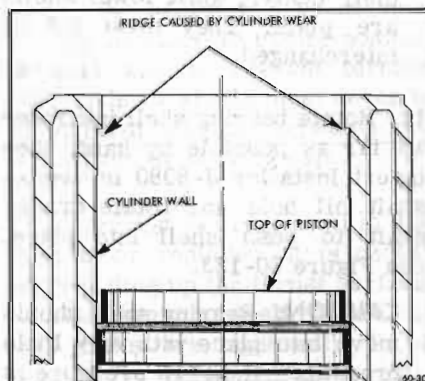

Figure 60-125—Ridges Worn by Ring Travel
2. Examine the cylinder bores above the ring travel. If bores are worn so a shoulder or ridge exists at this point, remove the ridges with a ridge reamer to avoid damaging rings or cracking ring lands in pistons during removal. See Figure 60-125.